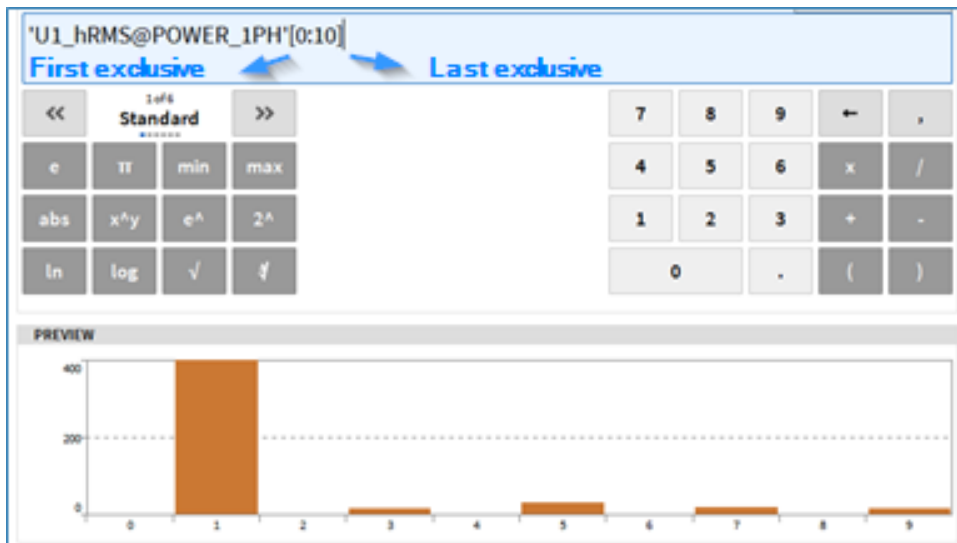

Fig. 7.78: Extraction of several adjacent elements
- When extracting several adjacent elements, the first specified index is always inclusive and the last one is always exclusive (see Fig. 7.78)
- Extraction of several adjacent elements (see Fig. 7.78). The output will be an array channel with the number of extracted element as new dimension.